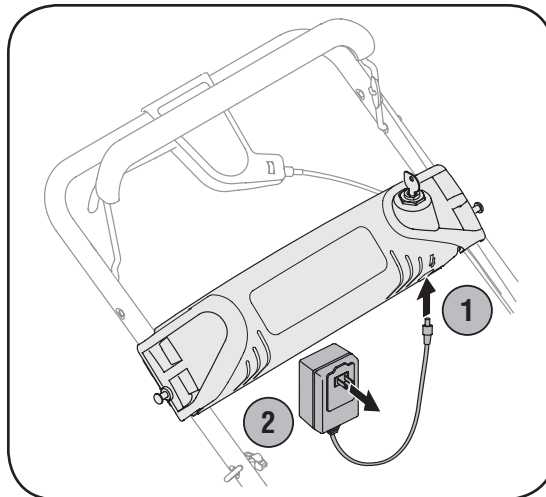

Figure 5-8: Plug charger into battery lead (1) and then plug charger pack into 120 volt standard household outlet (2).
1. Plug the battery charger into the port on the underside of the battery housing, Figure 5-8.
2. Insert the battery charger plug into a standard 120 volt household outlet. See Figure 5-8. Charge battery for 8 to 10 hours before initial use. **Do not charge longer than 12 hours.** The battery should only need to be charged upon initial setup and after any other extended periods of non-use.